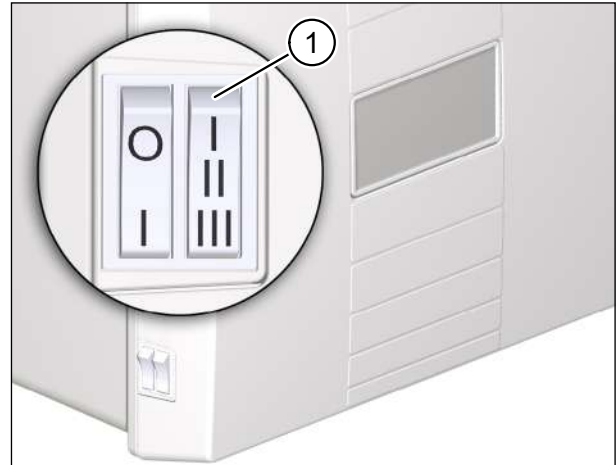

Fig. 17: Resetting the filter change indicator
- ▶ Within three seconds, select the ventilation levels **I-II-III-II-I** one after the other on the step switch (item 1 in Fig. 17).
- ▶ Within three seconds, while the ventilation unit is beeping, again select the ventilation levels **I-II-III-II-I** one after the other on the step switch (item 1 in Fig. 17).